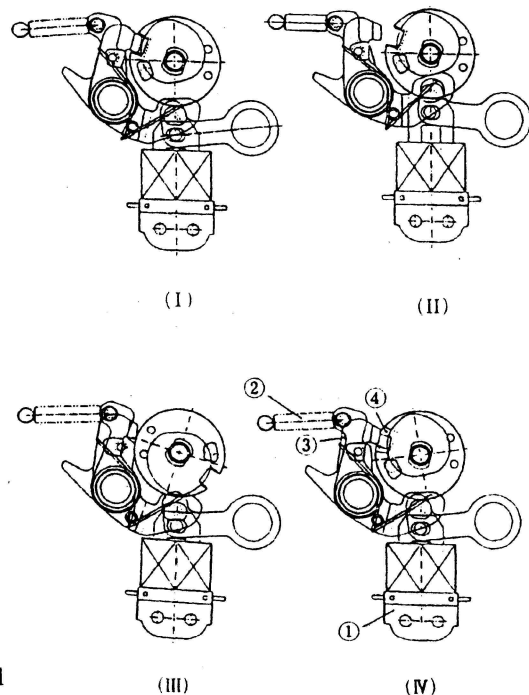

Fig.3 Film Frame Limiting Mechanism
Fig.3 shows operational positions of the Frame Limiting Mechanism which enhances the accuracy of the film stop position. When the Magnet Plunger has been energized after completion of the shutter travel sequence, the claw at the end of the Frame Limiting Lever ③ is released from the part of grooved in the Frame Limiting Cam ④ ( II ). Consequently, the Sprocket connected directly to the Frame Limiting Cam becomes free and the motor can drive the Spool to advance the film. During the film advancement by one frame, the trip in force for the claw is charged by the cam ( III ).